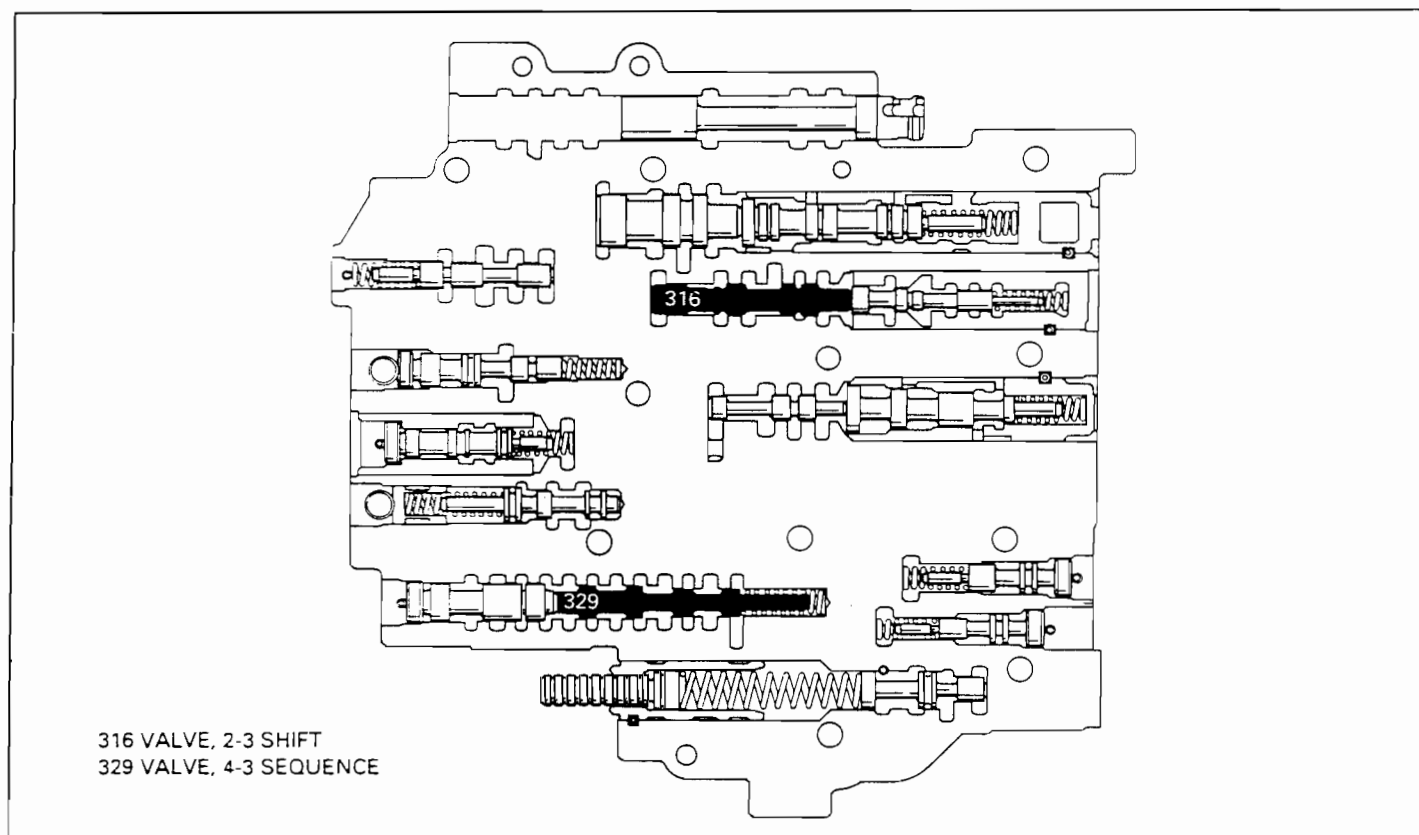

Figure 1
**CORRECTION:** Clean the contamination or remove burrs from the problem valves. Refer to Figure 1 for valve location.